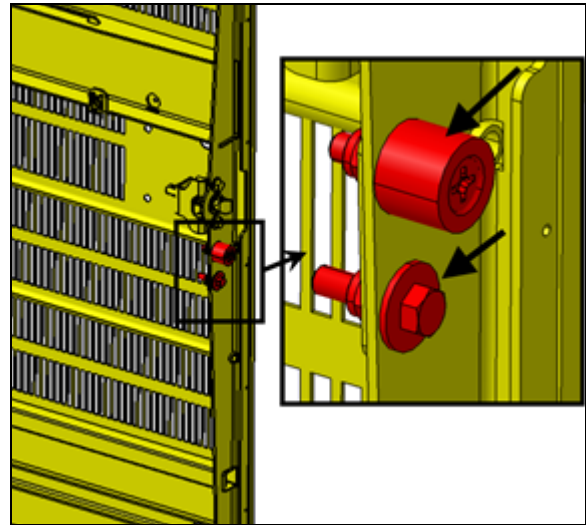

FIGURE 125
2. Check that the two items identified with arrows are snug but not tight (FIGURE 125).